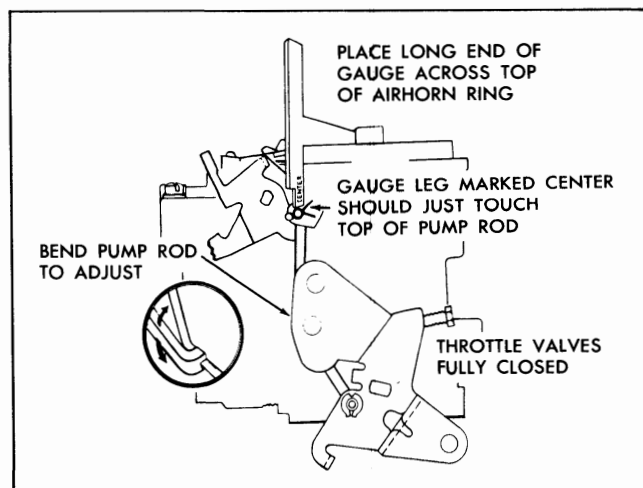

Fig. 6B-49 Pump Rod Adjustment—Center Carburetor
2. Place gauge across top of air horn ring with leg marked "pump" next to top of pump rod (See Fig. 6B-49).